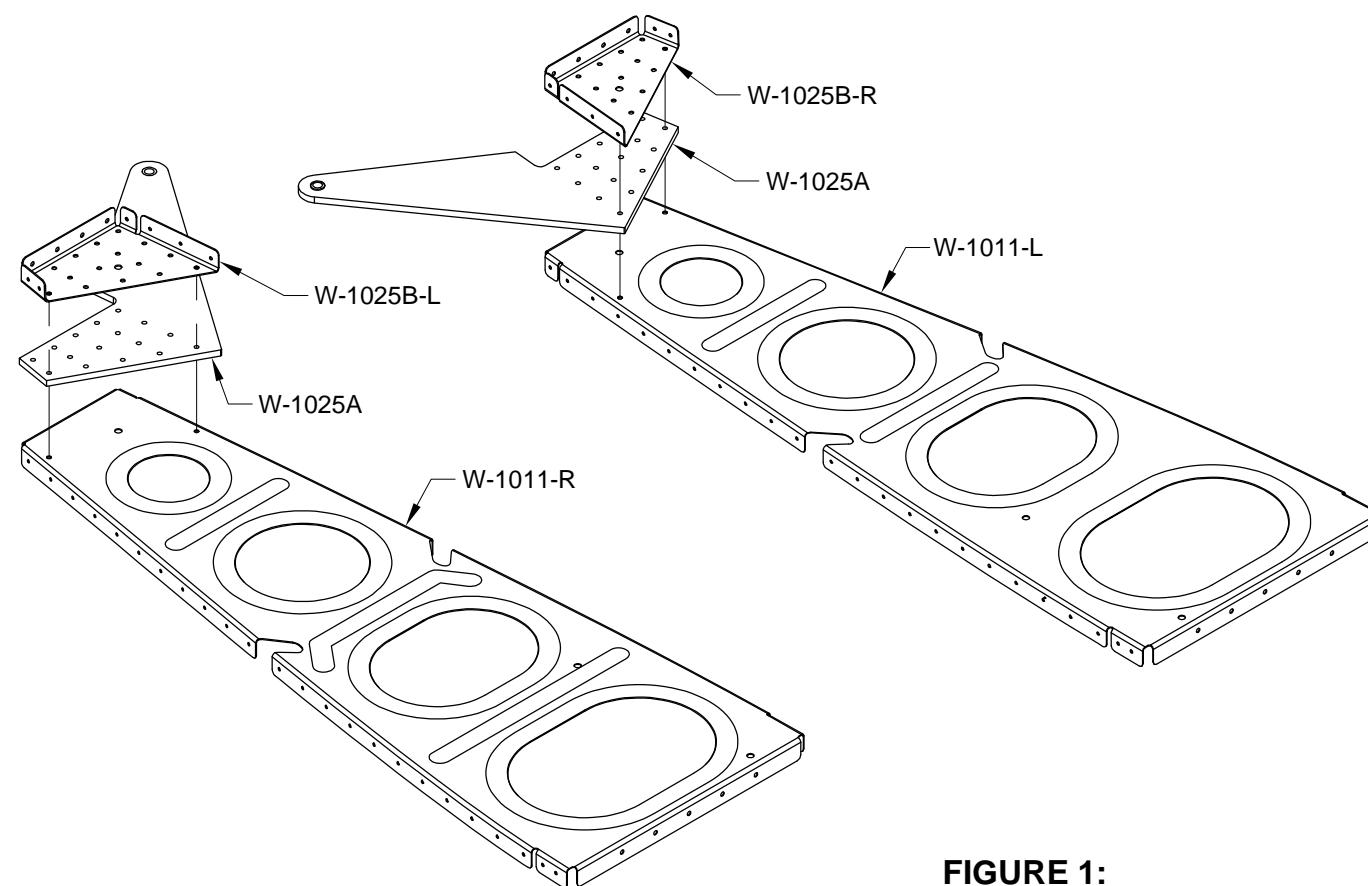

FIGURE 1:
Step 2: Cleco the W-1025B-R Flap Hinge Rib and W-1025A Flap Hinge Bracket to the two alignment holes in the W-1011-L Inboard Wing Rib as shown in Figure 1.
Cleco the W-1025B-L Flap Hinge Rib and W-1025A Flap Hinge Bracket to the two alignment holes in the W-1011-R Inboard Wing Rib as shown in Figure 1.
Match-Drill #30 the inboard wing ribs using the holes in the flap hinge ribs and brackets as a drill guide. Final-Drill #30 the two alignment holes in each inboard wing rib. See Figure 1.